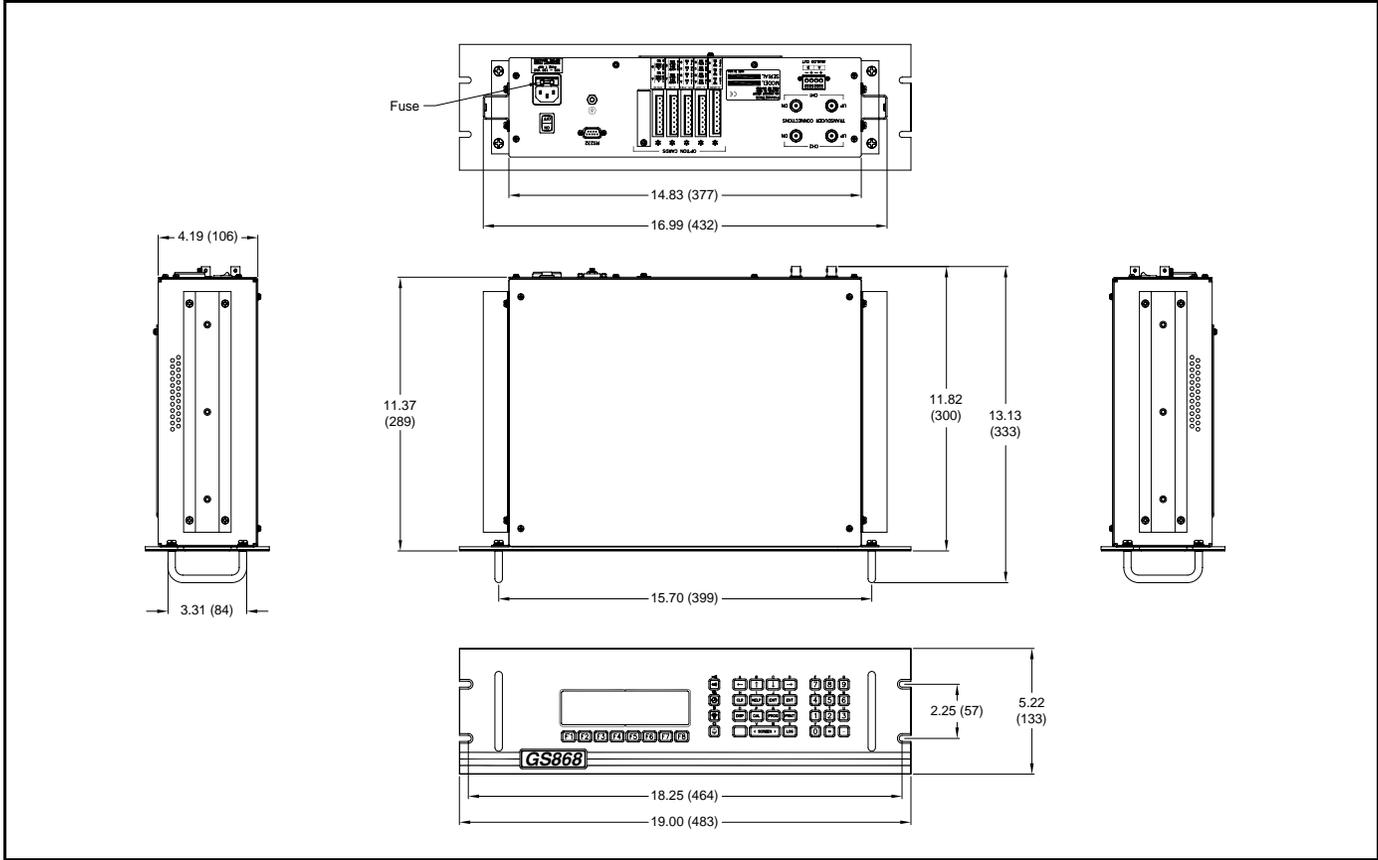
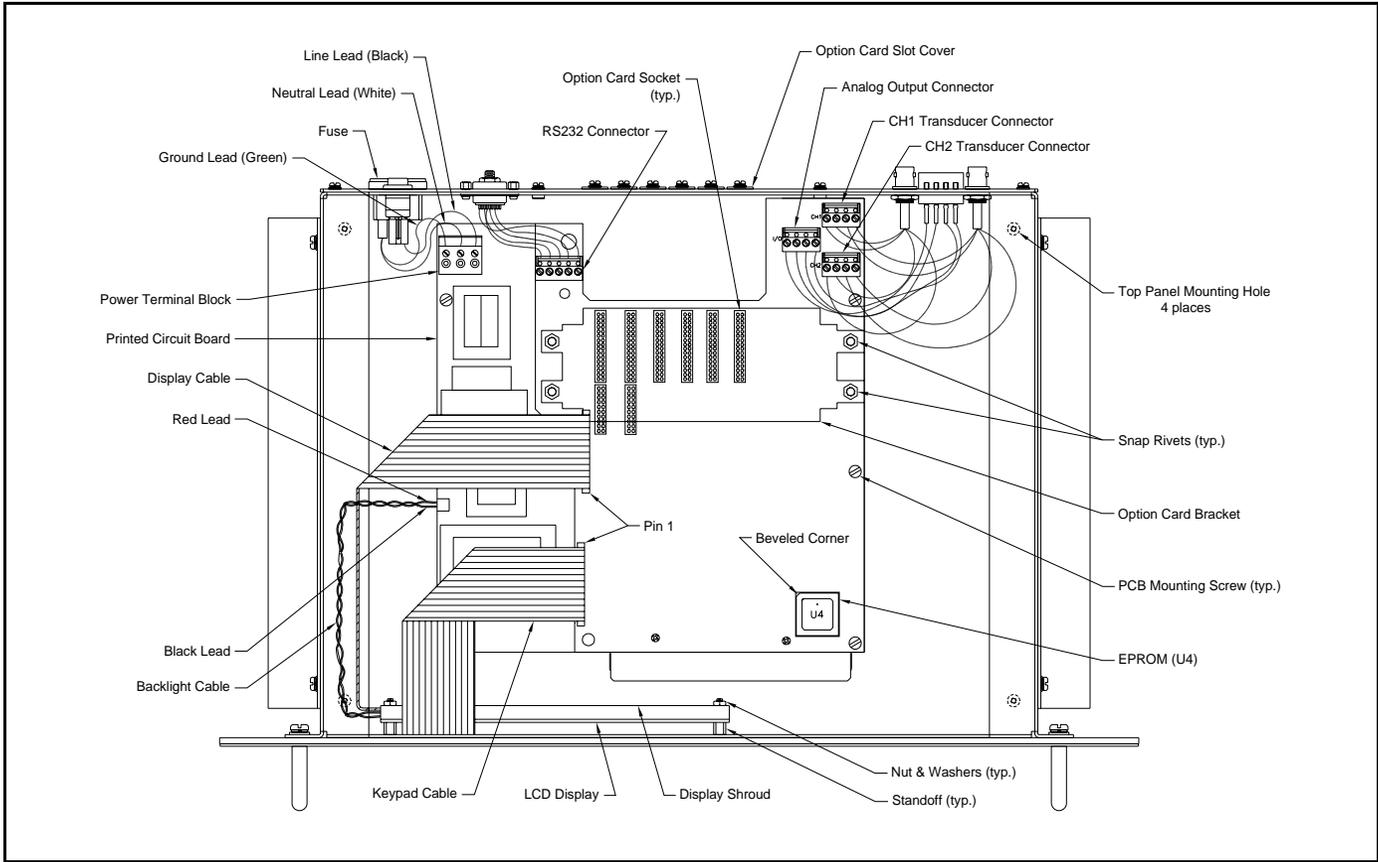

Figure B-1: Model GS868 Rack Mount Enclosure Dimensions - (ref. dwg #712-1078)
Figure B-2: Model GS868 Rack Mount Console Assembly - (ref. dwg #705-849)
If it has been determined that the fuse in the Model GS868 requires replacement, refer to Figure B-1 on page B-11 and Figure B-2 on page B-12, and complete the following steps:
Refer to Figure B-2 on page B-12 and complete the following steps:
EPROM replacement may be required to replace a defective chip or to upgrade to a newer software version. To replace the EPROM, refer to Figure B-2 on page B-12 and complete the following steps:
To replace the LCD display, refer to Figure B-2 on page B-12 and complete the following steps:
Circuit Board Installation Refer to Figure B-2 on page B-12 and complete the following steps:
5. Install the RS232, ANALOG OUT and TRANSDUCER connectors onto the printed circuit board at the locations indicated in Figure B-2 on page B-12. Make sure the marked pin #1 sides of the connectors face the right side (keypad side) of the enclosure.